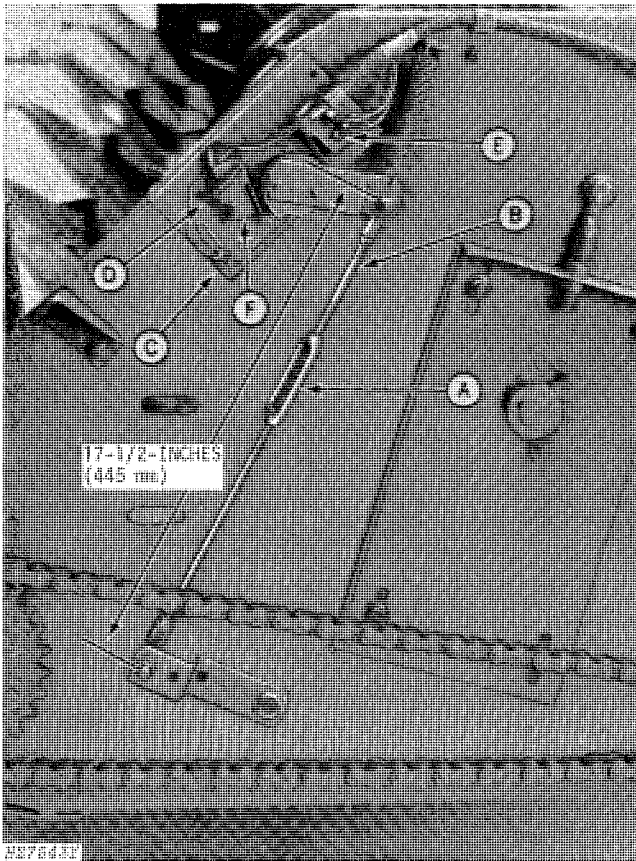

Fig. 122-Adjusting Height Sensing Switches
8. Loosen lock nut and lengthen turnbuckle "A" until push rod "B" activates or clicks the raise switch "E", then rotate turnbuckle one more turn and tighten lock nut (Fig. 122).
9. Loosen screw "C" and rotate lower switch adjusting bracket "D" fully clockwise (Fig. 122).